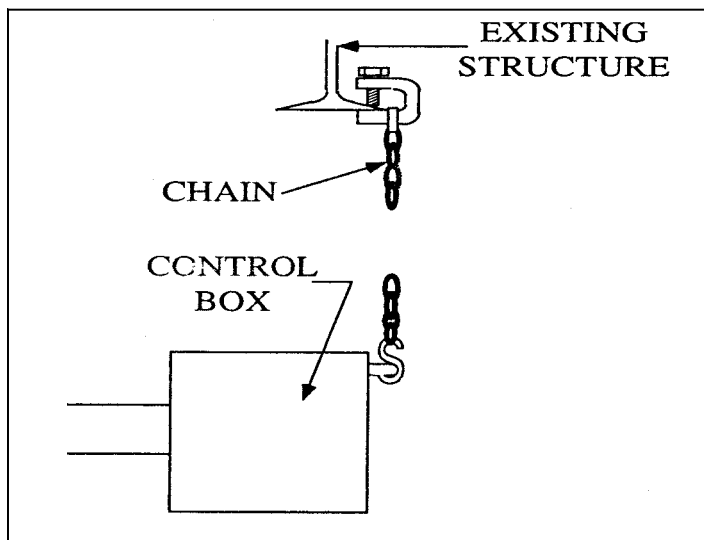

Figure 2-5
2. Use of number 1 double-loop chain is recommended for heater hanging (accessory No. RVA-CS). See Figure 2-5.